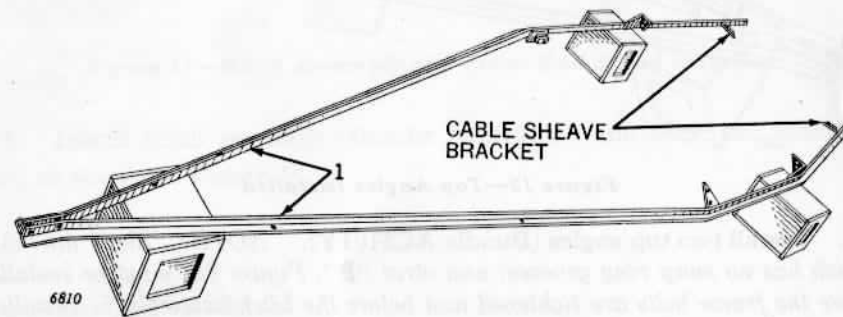

Figure 10—Lower Angles in Position
1. Lay the two longer angles (Bundle AC2102Y) on the ground or on boxes with cable pulley brackets pointed "in" as shown in Figure 10.